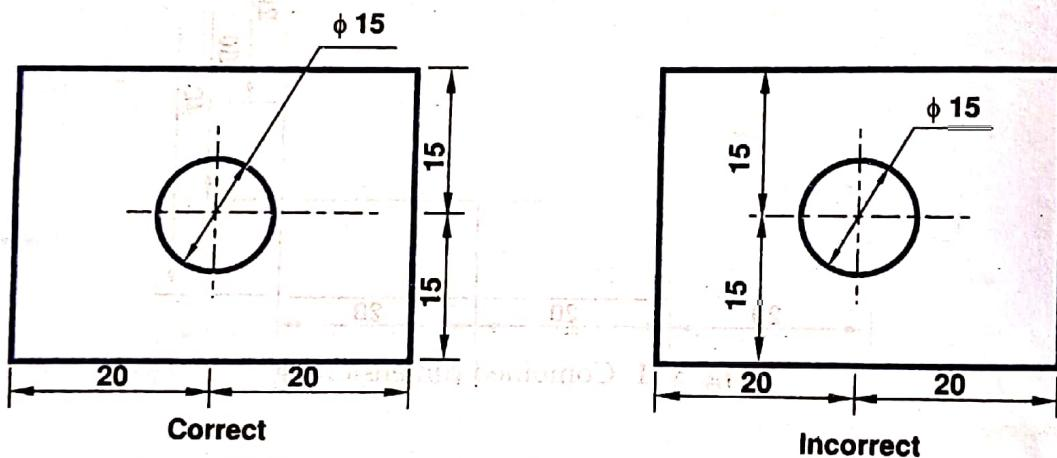

Fig. 3.15 Dimensions should be placed outside the view
- (iv) As far as possible, dimensions should be placed outside the views, as shown in Fig. 3.15.